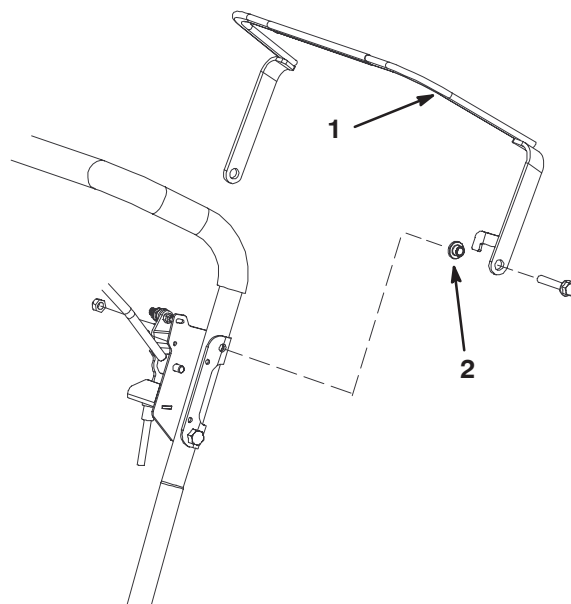

Figure 3
3. Mount each end of bail to control bracket and handle bar with a spacer and new washer head screw and nut (Fig. 3). Spacer to be positioned between control bracket and bail. Small end of spacer to be inserted into pivot hole in bail.